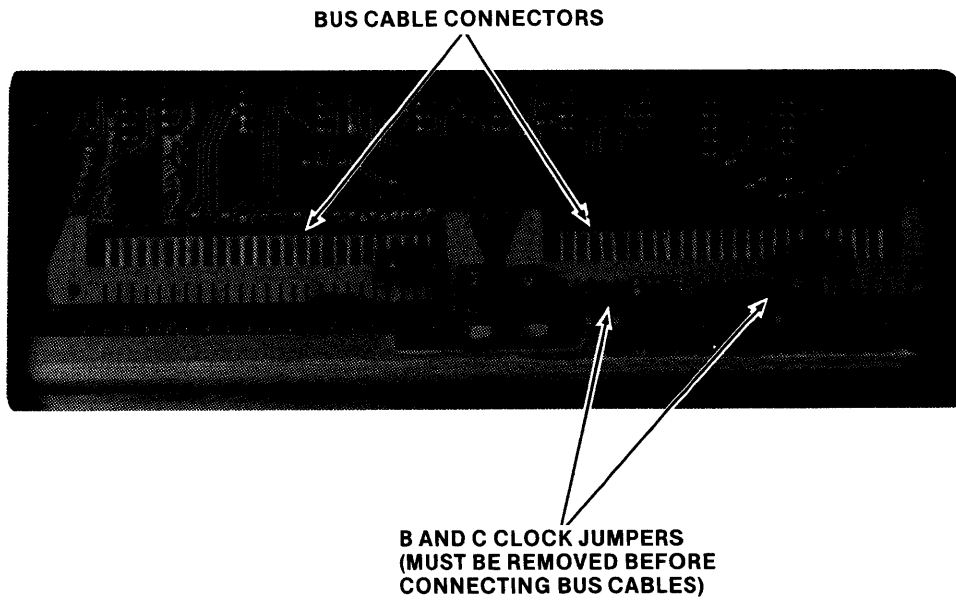

Figure 4-24. Main Chassis Cable Port
4. Refer to Figure 4-24. Remove the B and C clock termination jumpers from the main chassis.
Figure 4-24 shows the interface connectors on the back panel of the models 220, and 230.